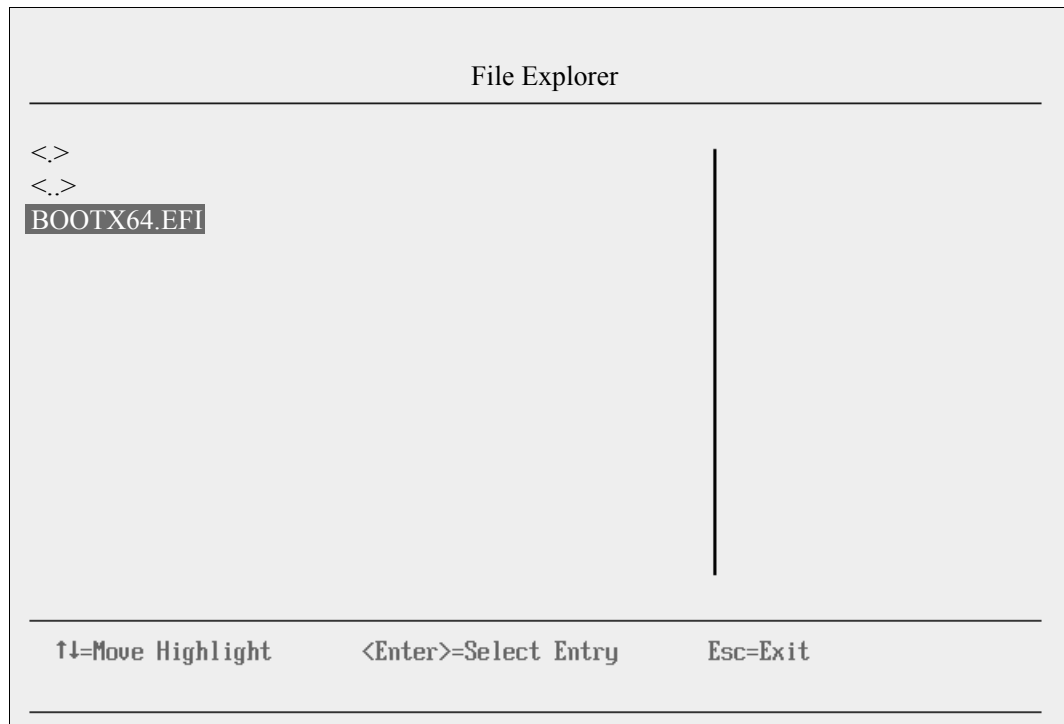

Figure 9-90 Selecting the *BOOTX64.EFI* file
5. Now that you are browsing the DVD, select **EFI**, select **BOOT**, and then select **BOOTX64.EFI** (Figure 9-90). This file name might be different if you are booting other versions of Windows, VMware, or Linux.